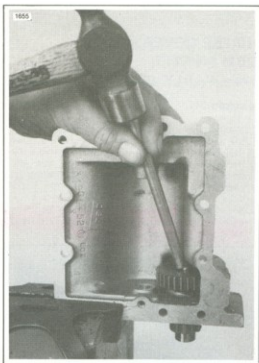

Figure 7-8. Shifter Shaft Removal
8. See Figure 7-8. Remove the cotter pin from the shifter shaft and tap shaft out of the cover. Remove the shifter gear and spring.